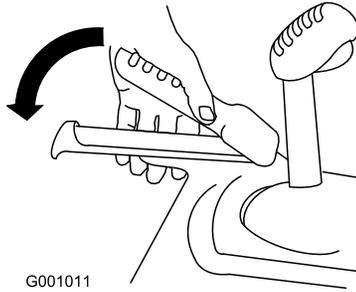

Figure 31
- To engage the traction drive, squeeze the left hand (traction) lever to the handgrip (Figure 31).